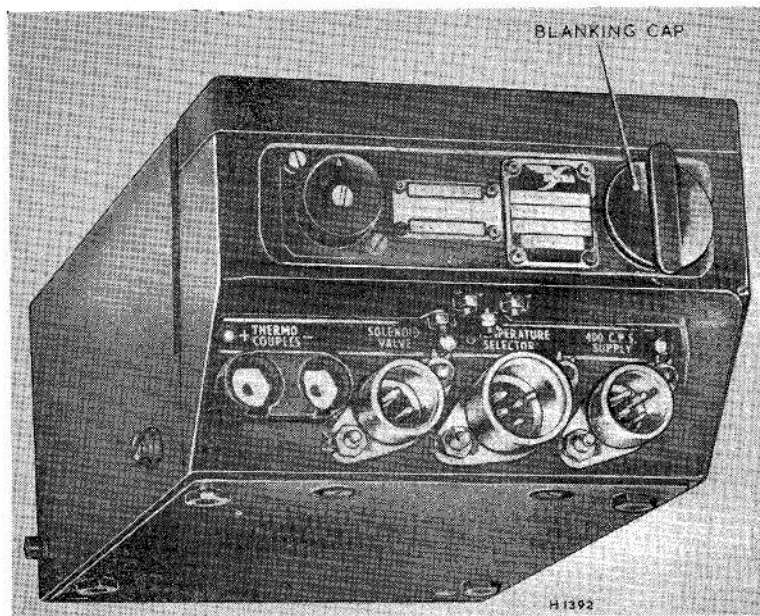

Fig. 1. Amplifier unit, Ultra, Type A431
1. The magnetic amplifier unit, Ultra, Type A431 (fig. 1), is designed to limit jet-pipe temperature at any predetermined value. Selector bobbins are used in conjunction with the amplifier unit to enable specific datum temperatures to be selected. Each selector bobbin enables a maximum of three
3. The components of the amplifier unit are mounted on two castings, which are assembled to form a single housing. Removing the top covers (*fig. 2*) of the respective castings reveals the amplifying stages, transformer unit, selector relays and the datum trim potentiometer. The illustration of the amplifier unit (*fig. 1*) shows a blanking cap which is removed when inserting a selector bobbin. Amplifying stages 1, 2 and 3, the transformer unit, the cold junction compensator (C.J.C.) and the datum depression unit, are housed in individual sealed cans. Access to their electrical connections is gained by removing the baseplate from the underside of the unit. A layout diagram (*fig. 7*) shows the location of components, together with their respective seal numbers which are mounted on the underside of the amplifier unit. These include the amplifier controls,